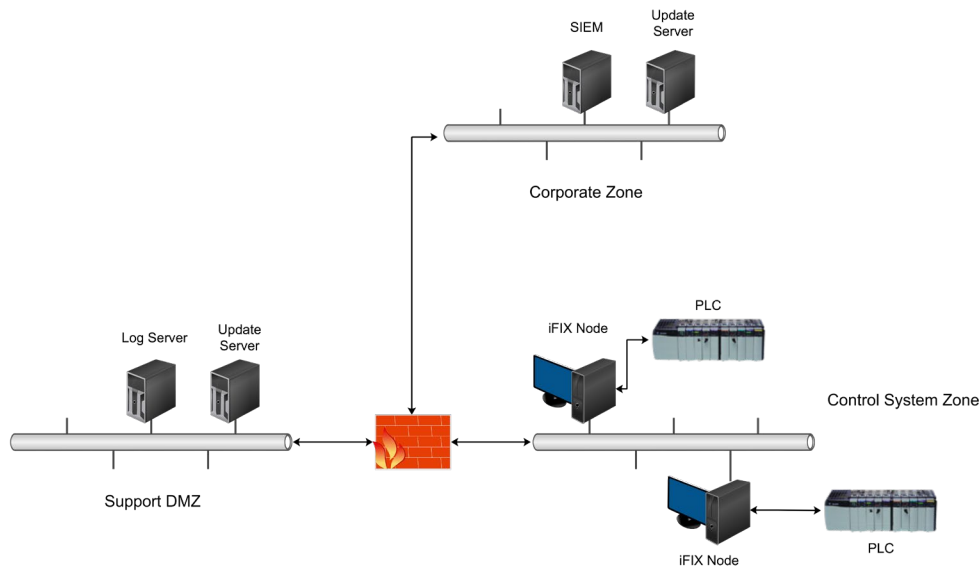

Figure 2 Distributed Process Control with a Support DMZ
A good security practice is to limit the conduits, or communication, between security zones. These conduits should be governed by a least privilege or whitelist approach where only required and approved communication is allowed through the conduit. The more trusted zone should originate communication to lower trust zone wherever possible. For example, a process in the Control System Zone can pull patch and anti-virus updates from the Support DMZ, as shown in Figure 2.
- Initiate the TCP communication from the more trusted zone. In other words, the computer in the more trusted zone pulls the updates from the less trusted zone. In Figure 2, the Update Server in the Support DMZ initiates a TCP session with a computer in the Corporate Zone to pull updates. Similarly, the iFIX nodes in the Control System Zone initiate TCP sessions with the Update Server in the Support DMZ to retrieve the updates.
Figure 2 shows a Log Server with the role to receive log files from the Control System Zone and forward them to the Corporate Zone. These log files could be syslog files from switches, routers, firewalls or servers, alerts from anti-virus or intrusion detection systems (IDS), alerts from PLCs, sensors, and anything else that can send a message in the network.
Figure 3 shows the addition of a Control System DMZ to the Figure 2 architecture. Many organizations combine the Control System DMZ and Support DMZ into a single DMZ but by separating them, you can gain these security advantages: